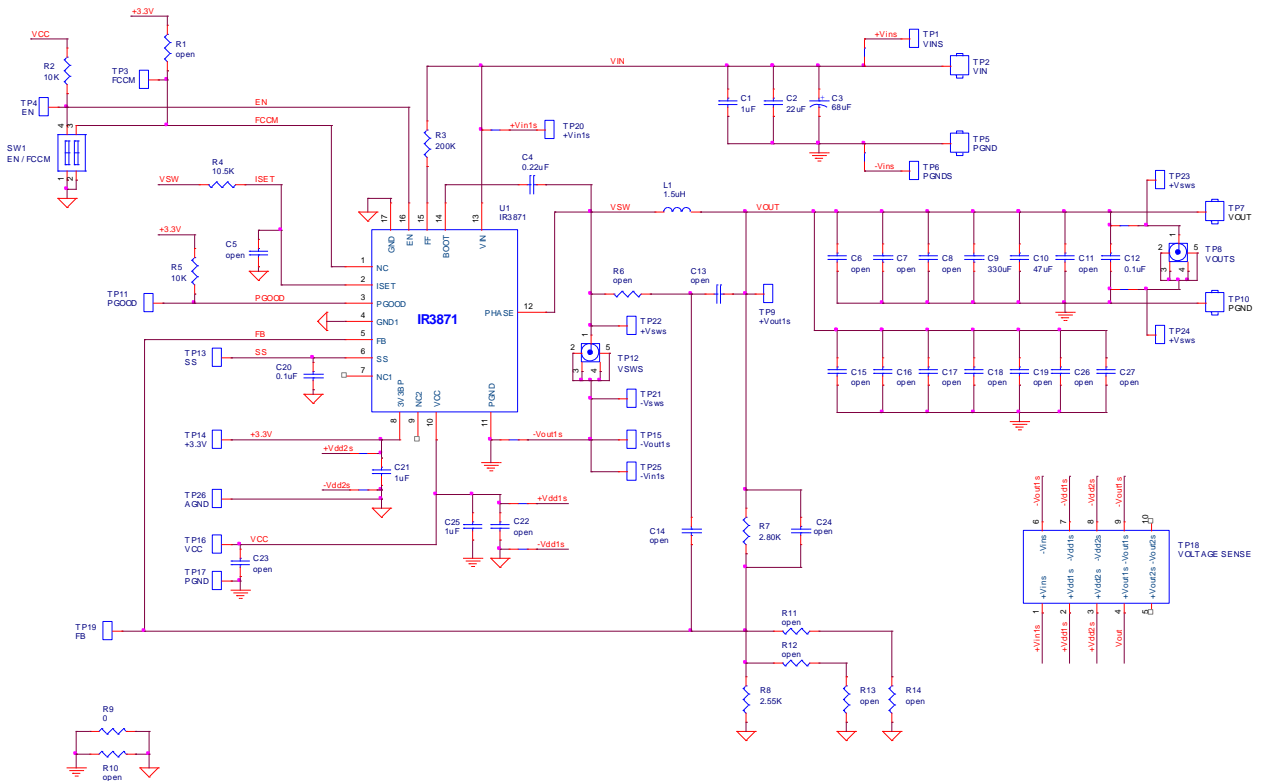

Figure 7. Typical Application Circuit for $V_{OUT} = 1.05V$, $F_s = 300kHz$
Tested with demoboard shown in Figure 7, $V_{IN} = 12V$, $V_{CC} = 5V$, $V_{out} = 1.05V$, $F_s = 300kHz$, $T_A = 25^\circ C$, no airflow, unless otherwise specified
- For applications with all ceramic output capacitors, the ESR is usually too small to meet the stability criteria. In these applications, external slope compensation is necessary to make the loop stable. The ramp injection circuit, composed of R6, C13, and C14, shown in Figure 7 is required. The inductor current ripple sensed by R6 and C13 is AC coupled to the FB pin through C14. C14 is usually chosen between 1 to 10nF, and C13 between 10 to 100nF. R6 should then be chosen such that $L/DCR = C13 \cdot R6$.